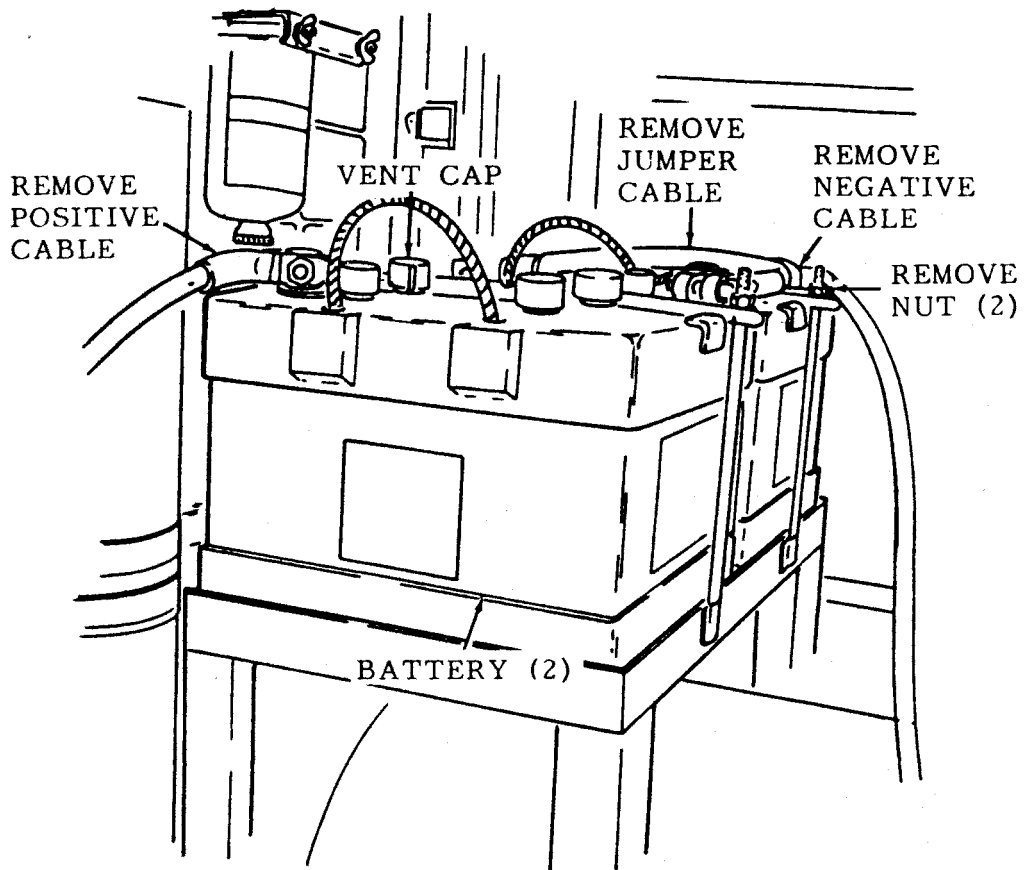

Figure 4-3. Batteries, Removal, Installation and Service.
- a. Refer to figure 4-3, and remove the batteries from the battery box.
- c. Refer to figure 4-3 and install the batteries in the battery box.